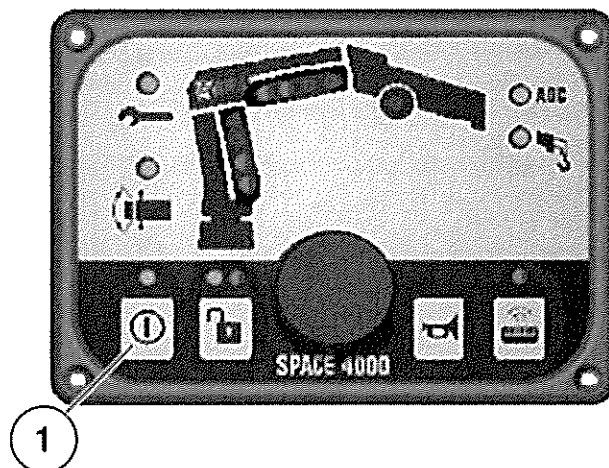

Fig 3 Starting the crane (2)
- 12.3 Refer to Fig 3. Press the on/off (1) button on the user interface panel, the engine idle speed will increase automatically.
13 Refer to Fig 3. To start the crane at temperatures below 0°C, proceed as follows: